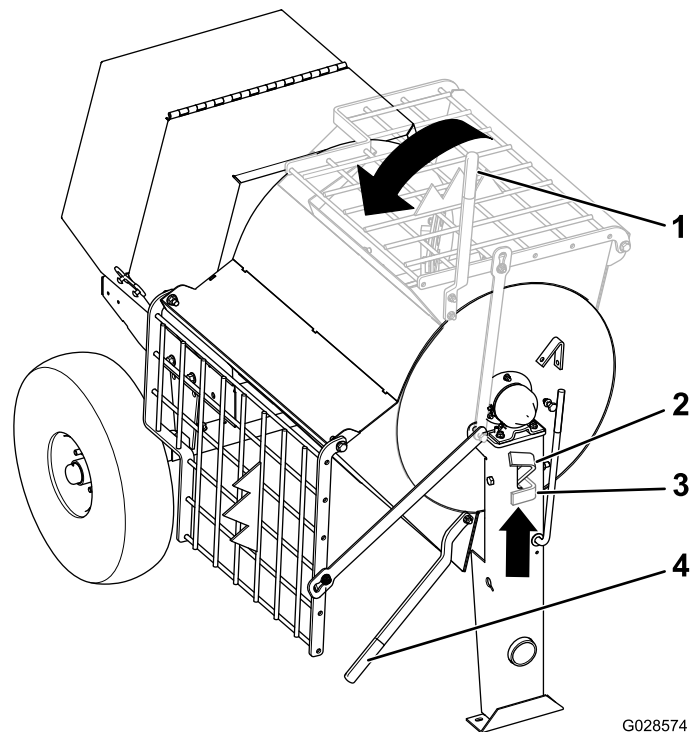

Figure 28
2. Grasp the dump handle with your left hand (Figure 28).
3. Lift the handle of the drum latch (Figure 28).
4. With both hands on the dump handle, rotate it counterclockwise to discharge the contents of the drum (Figure 28).
5. Rotate the dump handle **clockwise** until the drum latch locks the drum in the upright position (Figure 28).